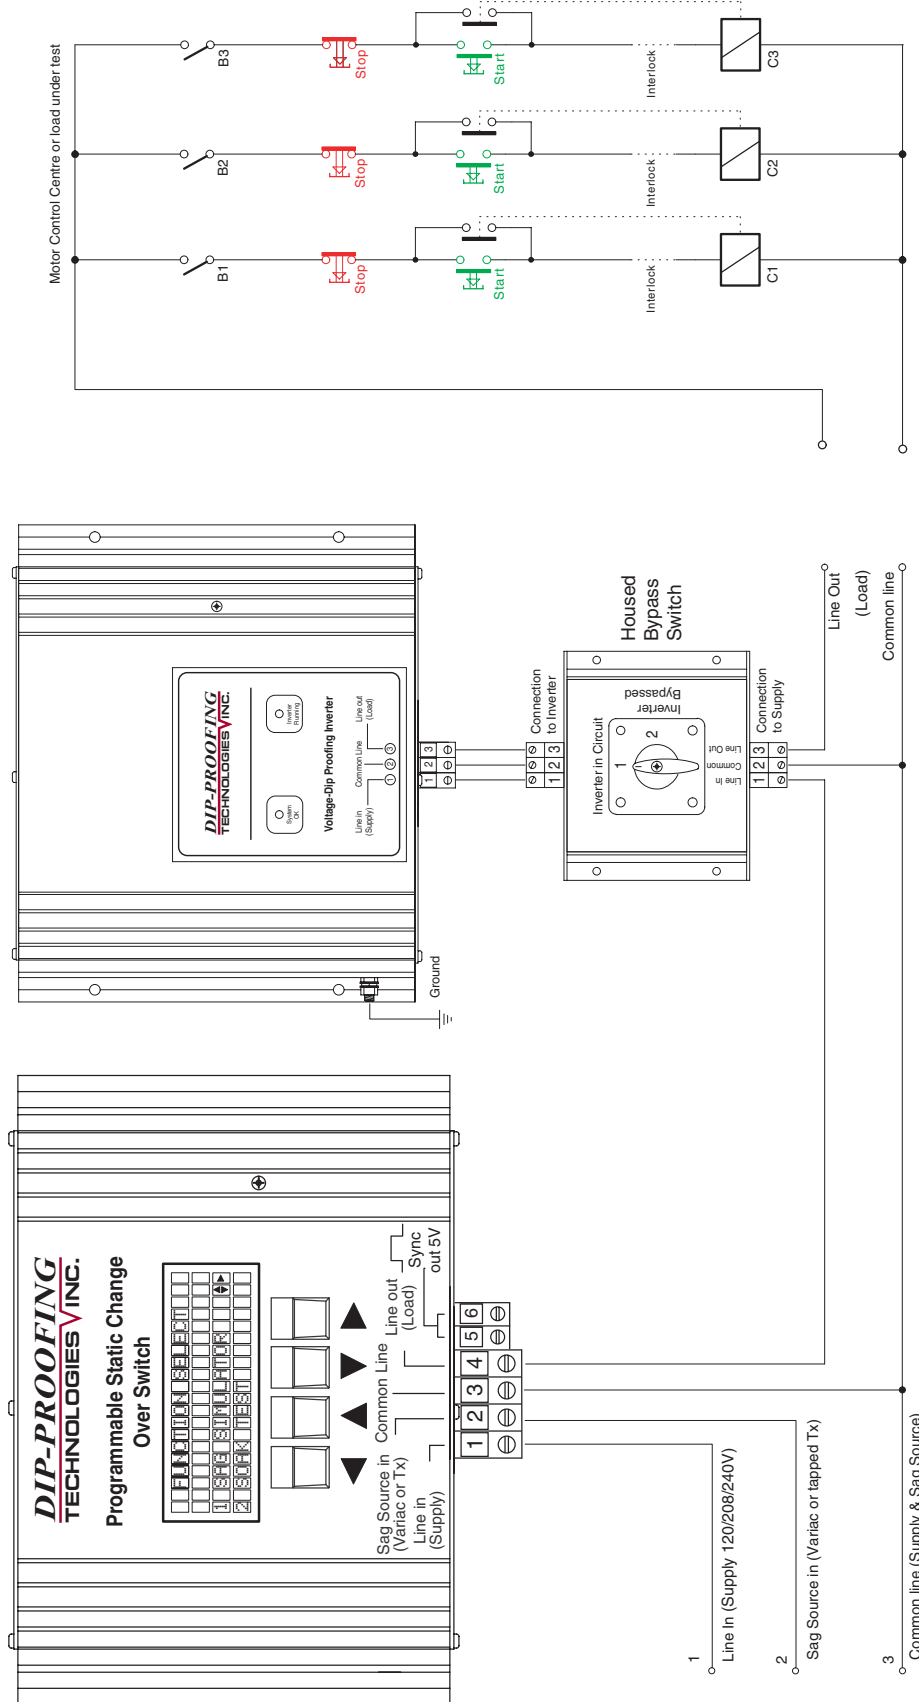

Fig 8
1. Connect the supply, Voltage Dip-Proofing Inverter or Voltage Dip Compensator, Bypass Switch and load to the PSCOS as shown in Fig 8 page 13.